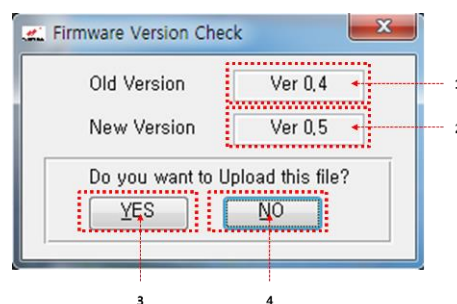

Figure 7-2: Firmware Version Check
5. Click in the **Specify INI File to Open** browser window, Figure 7-2. The Firmware Version Check dialog window displays, Figure 7-2.